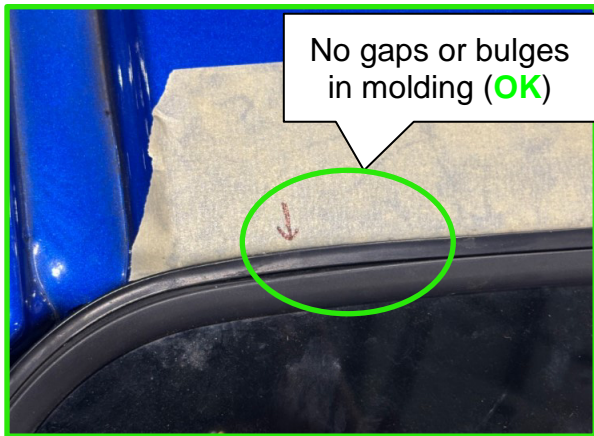
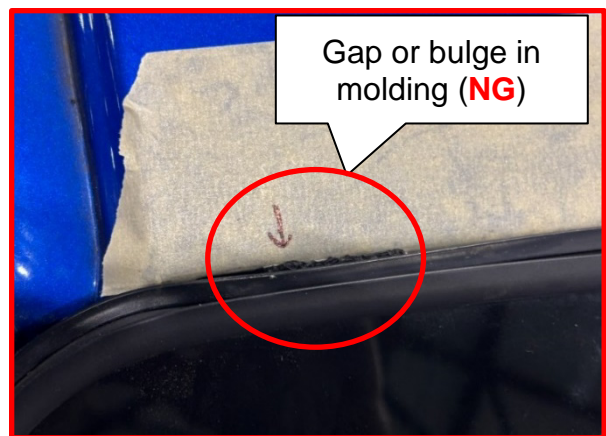

Figure 20
Figure 21
14. Confirm the foam was inserted properly by checking for gaps or bulges in the windshield molding (Figure 20 and Figure 21).